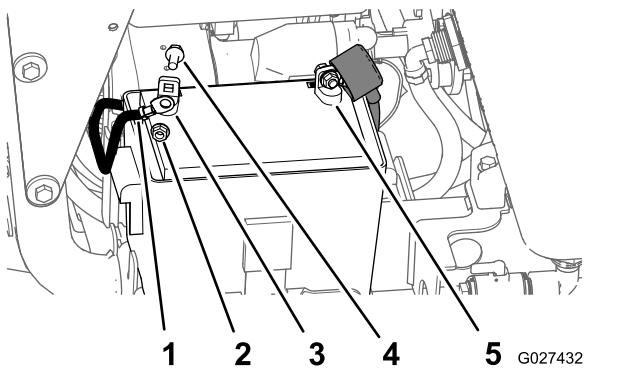

Figure 89
3. Remove the hex-flanged bolt and flanged nut from the negative battery cable and negative (-) battery terminal, and remove the cable from the battery (Figure 89).
4. Slide the red-terminal cover off the positive battery terminal (Figure 89).
5. Remove the hex-flanged bolt and flanged nut from the positive (red) battery cable and the positive (+) battery terminal, and remove the cable from the battery (Figure 89).
3. Install the positive (red) battery cable to positive (+) battery terminal with a flanged bolt and flanged nut (Figure 89).
5. Install the negative battery cable to the negative (-) battery terminal with a flanged bolt and flanged nut (Figure 89).